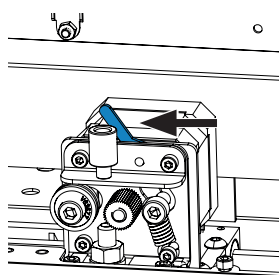

Fig. 25
- ⇒ Move the lever at the top of the extruder to the left (Fig. 25).